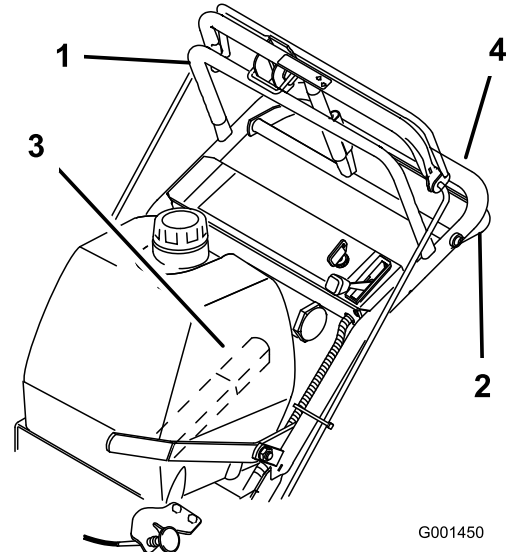

Figure 10
1. To go forward, move the shift lever to a forward gear (Figure 10).
3. Slowly press on the upper control bar to move forward (Figure 10).
To go straight, apply equal pressure to both ends of the upper control bar (Figure 10).
To turn, release pressure on the upper control bar side in the direction you want to turn (Figure 10).
3. Slowly squeeze the lower control bar and lower handle together to move rearward (Figure 10).
7. At the same time engage the lower control bar and lift up on the lower handle to drive over the curb (Figure 10 and Figure 11).
4. At the same time engage lower control bar and lift up on the lower handle (Figure 10 and Figure 12).